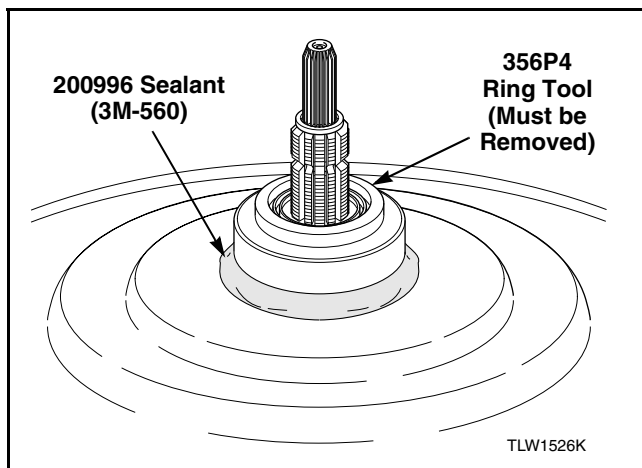

Figure 59
- o. Place 356P4 Ring Tool (included in this kit) on top of seal. Refer to *Figure 59*.